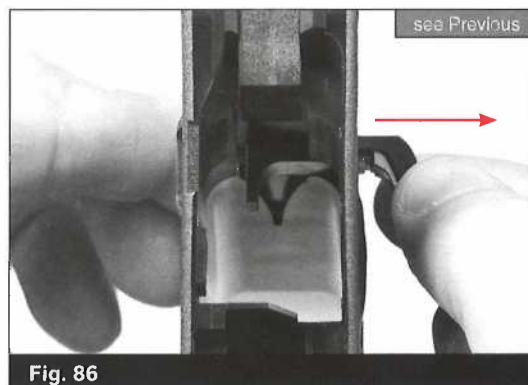

Fig. 86
- Remove the magazine catch body. (Fig. 86)